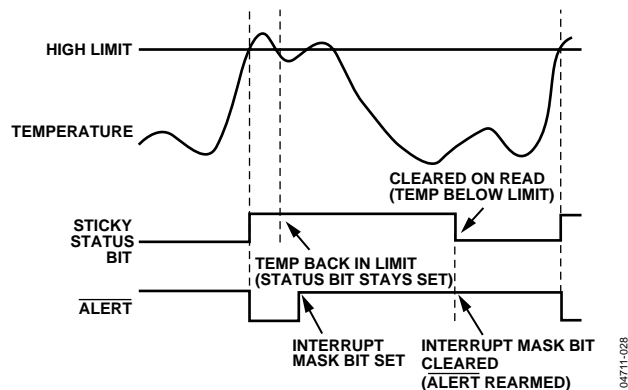

Figure 29. How Masking the Interrupt Source Affects  $\overline{\text{ALERT}}$  Output
7. Periodically poll the status registers. If the interrupt status bit has cleared, reset the corresponding interrupt mask bit to 0. This causes the  $\overline{\text{ALERT}}$  output and status bits to behave as shown in Figure 29.